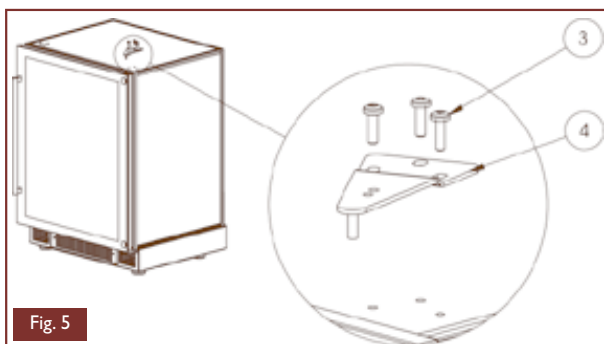

Fig. 5
- Fit the hinge with pin (4) using the screws (3) so that the door is parallel to the cabinet (Fig. 5).